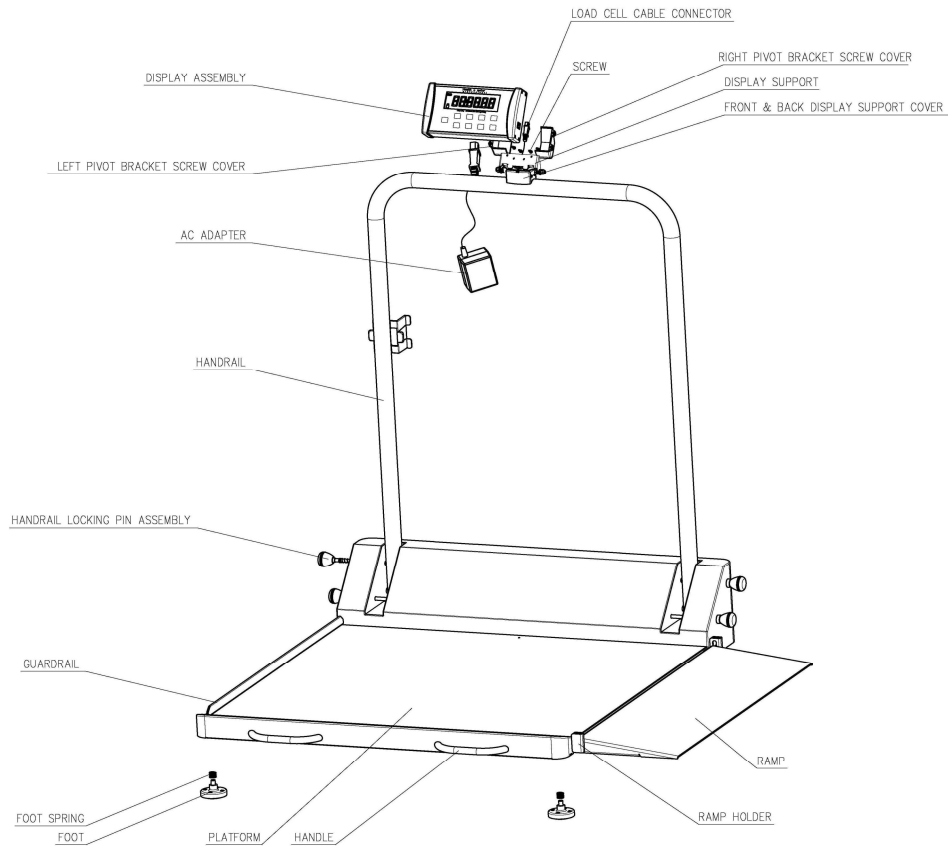

Figure 6
Assembling the 2600KL Scale (see Figure 6 & 7)
3. Thread the 4 feet into the underside of the scale platform (see Figure 6). Each foot should initially be completely hand tightened, and then backed out 1-½ full turns. This will allow for proper load cell operation and scale accuracy.
2. Loosen all four of the handrail locking pin assemblies by turning the locking pins counterclockwise (see Figure 6).